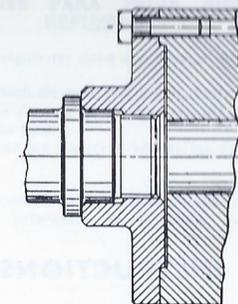

Fig. 42
**Note.** With three-jaw gear scroll chucks, contact is made with the outer face of the chuck body and clearance with the inner face, see Fig. 42.